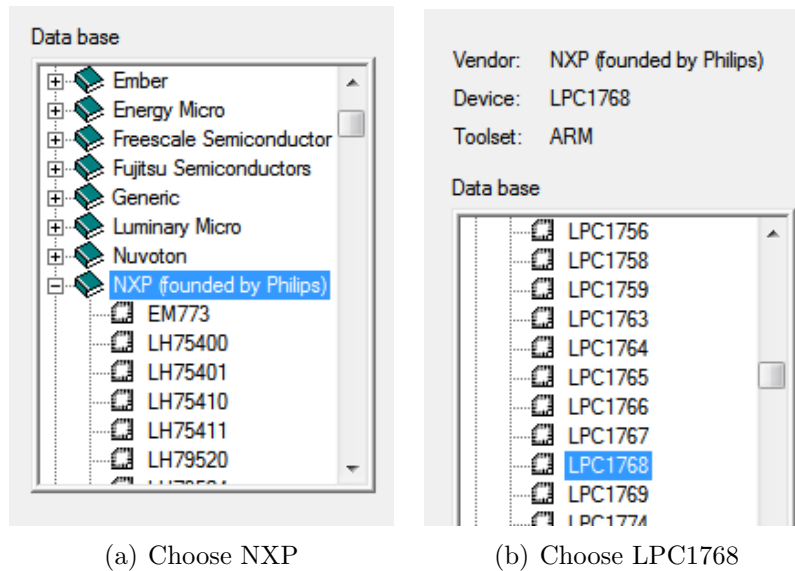

Figure 8.2: Keil IDE: Choose MCU
- Choose NXP(Founded by Philips) \rightarrow LPC1768 (See Figure 8.2(a) and Figure 8.2(b))